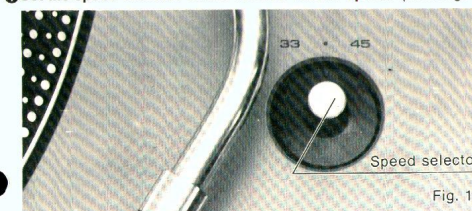

Fig. 16
- ① Set the speed selector to the desired record speed. (See Fig. 16)